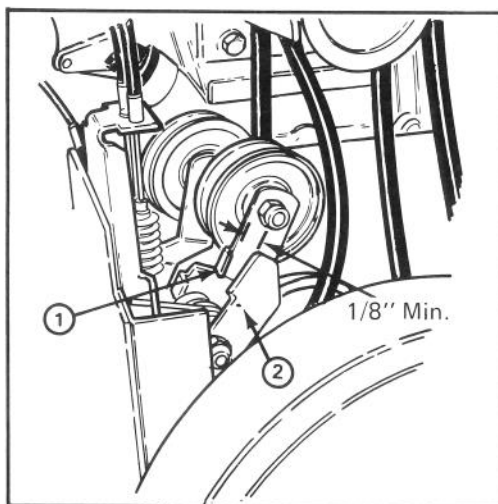

Figure 19
1. Remove (3) flange head capscrews securing belt cover to engine frame and slide belt cover up cables.
2. Check idler and brake adjustment. There should be a minimum clearance of 1/8" between tab on impeller idler arm and brake arm (Fig. 19). If there is less than 1/8" clearance, belt must be replaced.